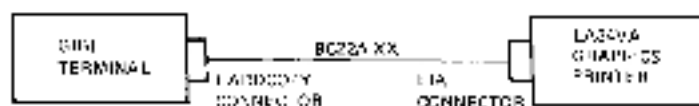

Figure 2-9 Single VK100 (GIGI) Terminal to LA34VA Graphics Printer Connection
2.5.3.1 Connecting Directly to the LA34VA Graphics Printer -- Use the following procedure for connecting a single VK100 terminal to the LA34VA graphics printer. Maximum cable length is 50 feet. Figure 2-9 shows a simple block diagram of this configuration.